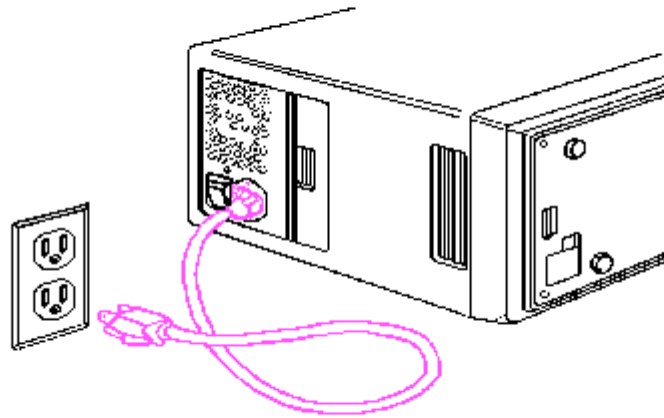

Figure 7-2. Disconnecting the AC Power Cord
4. Disconnect the AC power cord from the AC outlet and from the computer (Figure 7-2).